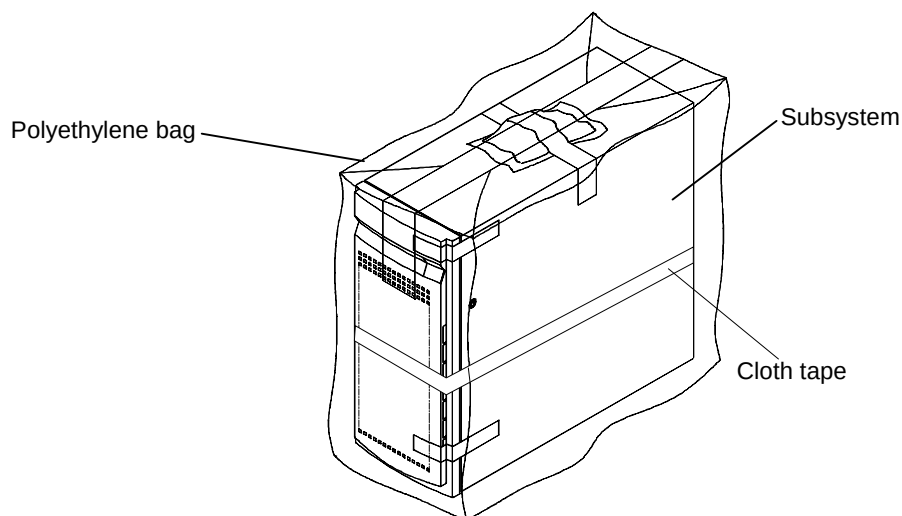

Figure 3.1.2 Subsystem without Packaging
- (2) Figures 3.1.2, 3.1.3 show the subsystem without external packaging.
- (3) Unpacking
- ① Loosen the polyester bands.
- ② Pull out the Tri-wall nails.
- ③ Remove the external packaging and packing materials.
- ④ Take the subsystem out of the polyethylene bag.
- ⑤ Keep two keys in the attached box carefully.